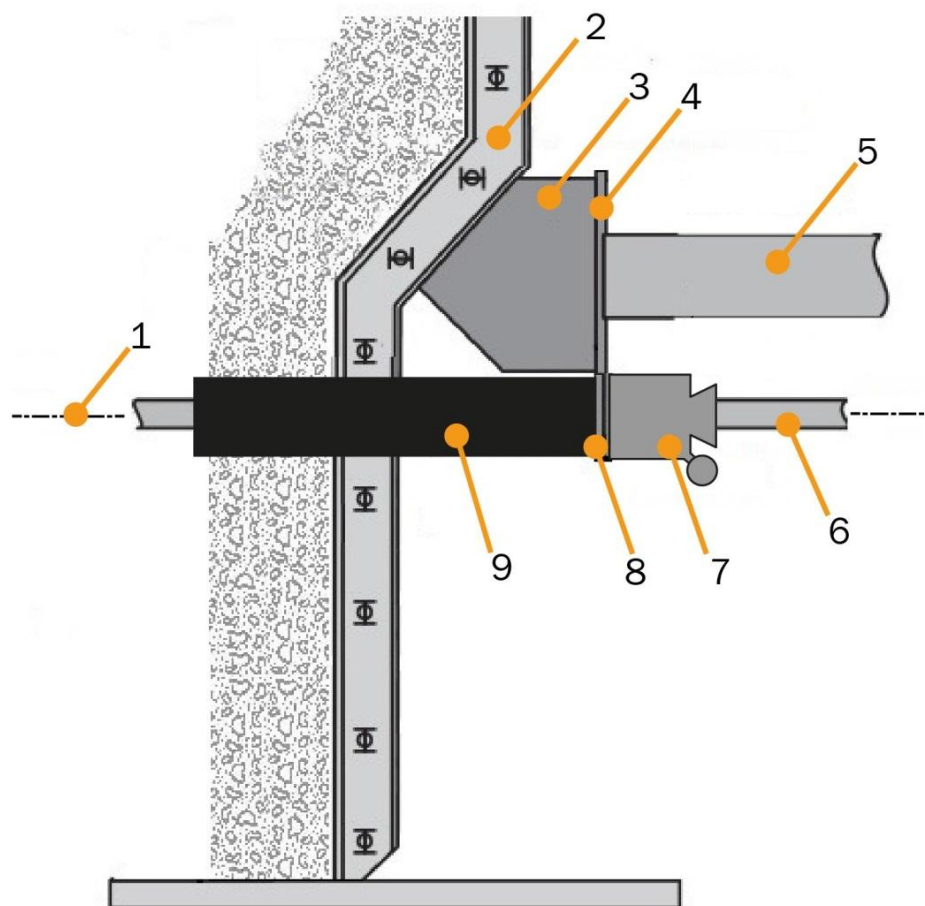

Fig. 19: Retraction device installation
- ▶ Connect the mounting plate to the outer wall of the kiln using a steel sheet angular plate or similar stabilizing material, see Fig. 19: "Retraction device installation", page 33.